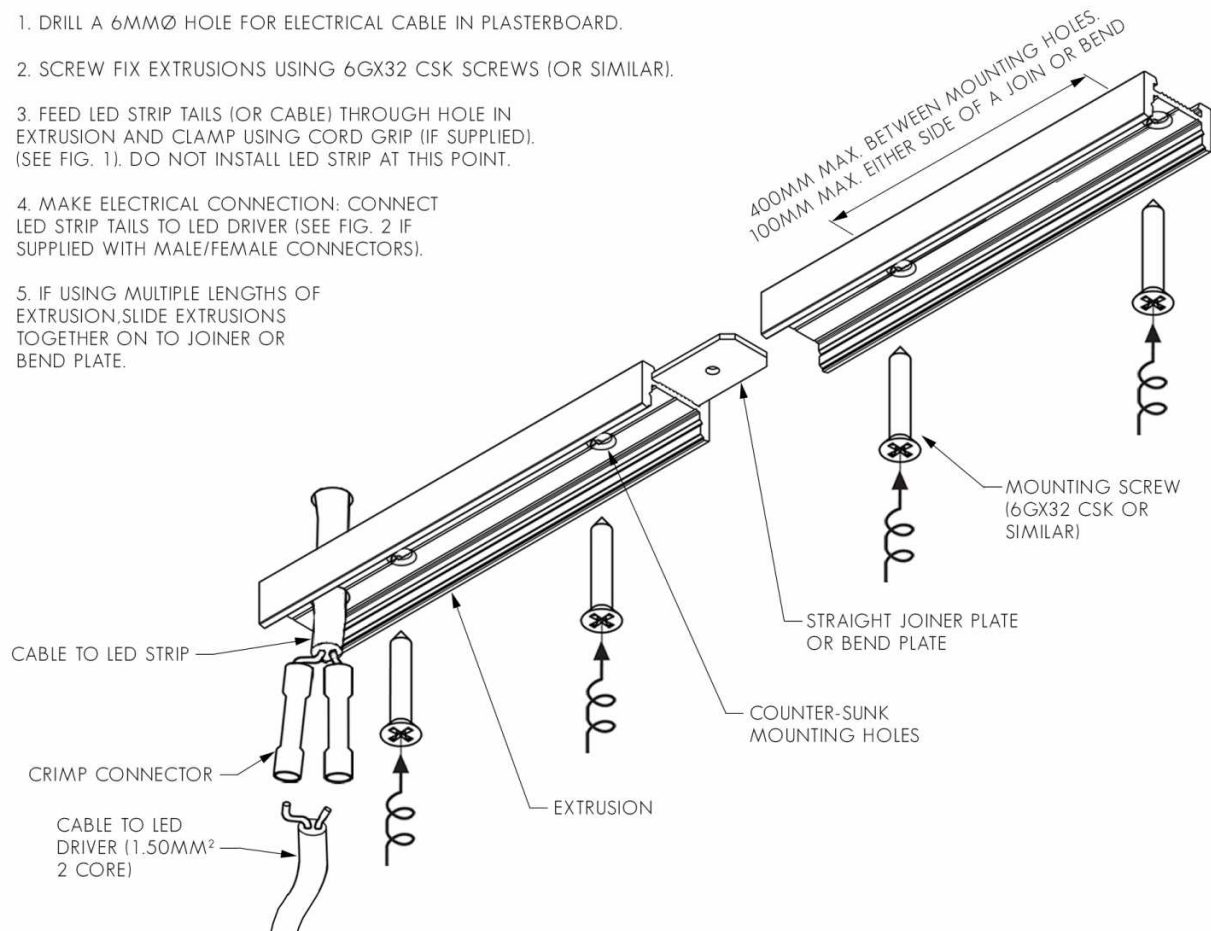

FIG. 1 - FASTEN CABLE USING CORD GRIP
3. FEED LED STRIP TAILS (OR CABLE) THROUGH HOLE IN EXTRUSION AND CLAMP USING CORD GRIP (IF SUPPLIED). (SEE FIG. 1). DO NOT INSTALL LED STRIP AT THIS POINT.